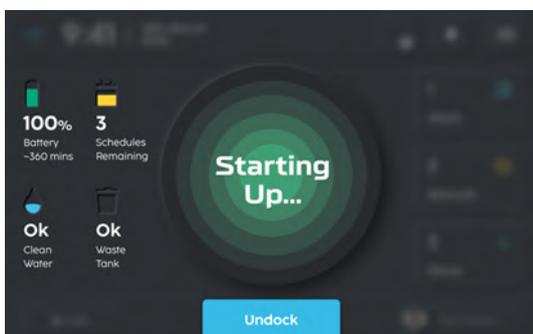

FIGURE 12-8
4. When the machine has docked, the touchscreen will turn green and reflect 'Starting Up' (**Fig. 12-8**). This indicates that the machine has docked. However, the machine may reattempt docking if the machine fails to start charging.
5. The touchscreen will turn green and reflect 'Starting Up' (**Fig. 12-8**). This indicates that the machine has docked. However, the machine may reattempt docking if the machine fails to start charging.